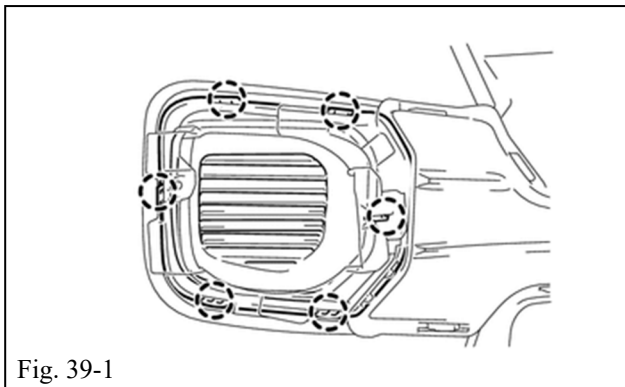

Fig. 39-1
- (a) Engage the 6 claws to install the front bumper hole cover. (Fig. 39-1)